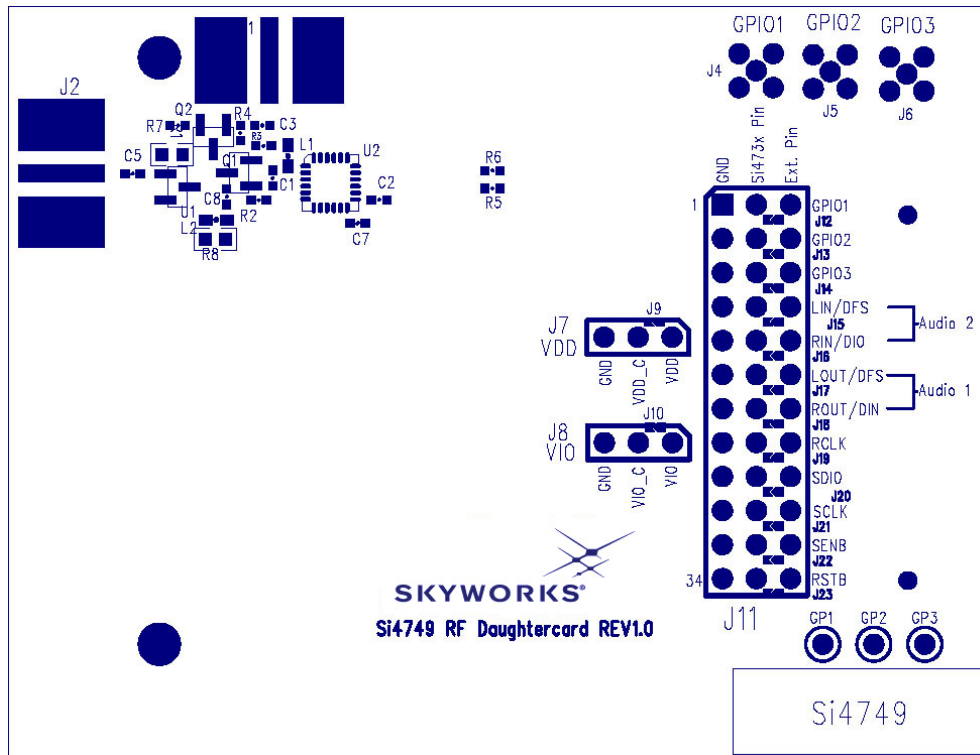

Figure 124. Si4749-EVB Daughtercard Rev 1.1—Primary Side Silkscreen
**Note:** For Figures 124 through 129: C4, C6, R9, and R11 manually added to Si4749EVB Rev 1.0 to create Si4749 EVB Rev 1.1.